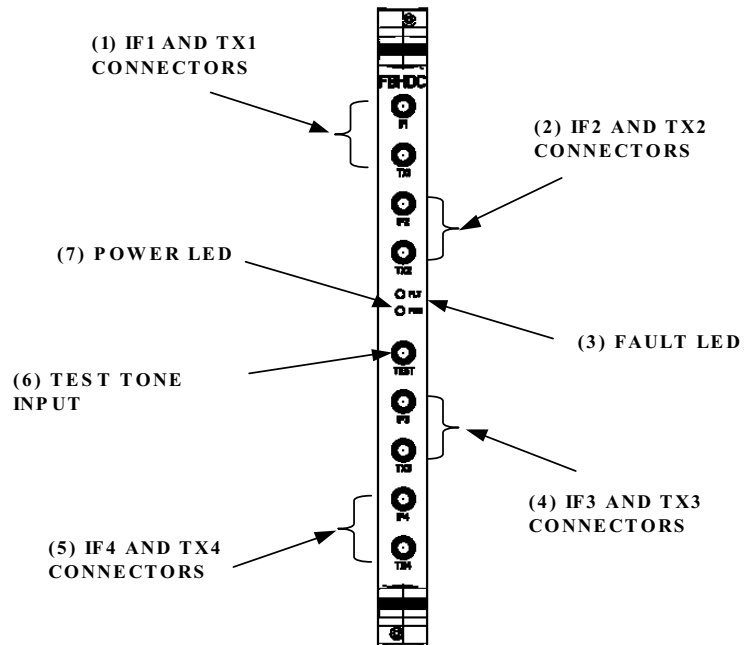

Figure 2-16. FBHDC Module
The Full Band Hub Down Converter (FBHDC), shown in Figure 2-16, down converts the forward RF carrier to an intermediate frequency (IF) that can be digitized. Each FBHDC can support up to 15 MHz of contiguous spectrum. The FBHDC can be inserted into slots 2, 4, 6 and 8 (see Table 2-6) of the Hub RF Chassis. The references for the FBHDC are shown in Table 2-10.